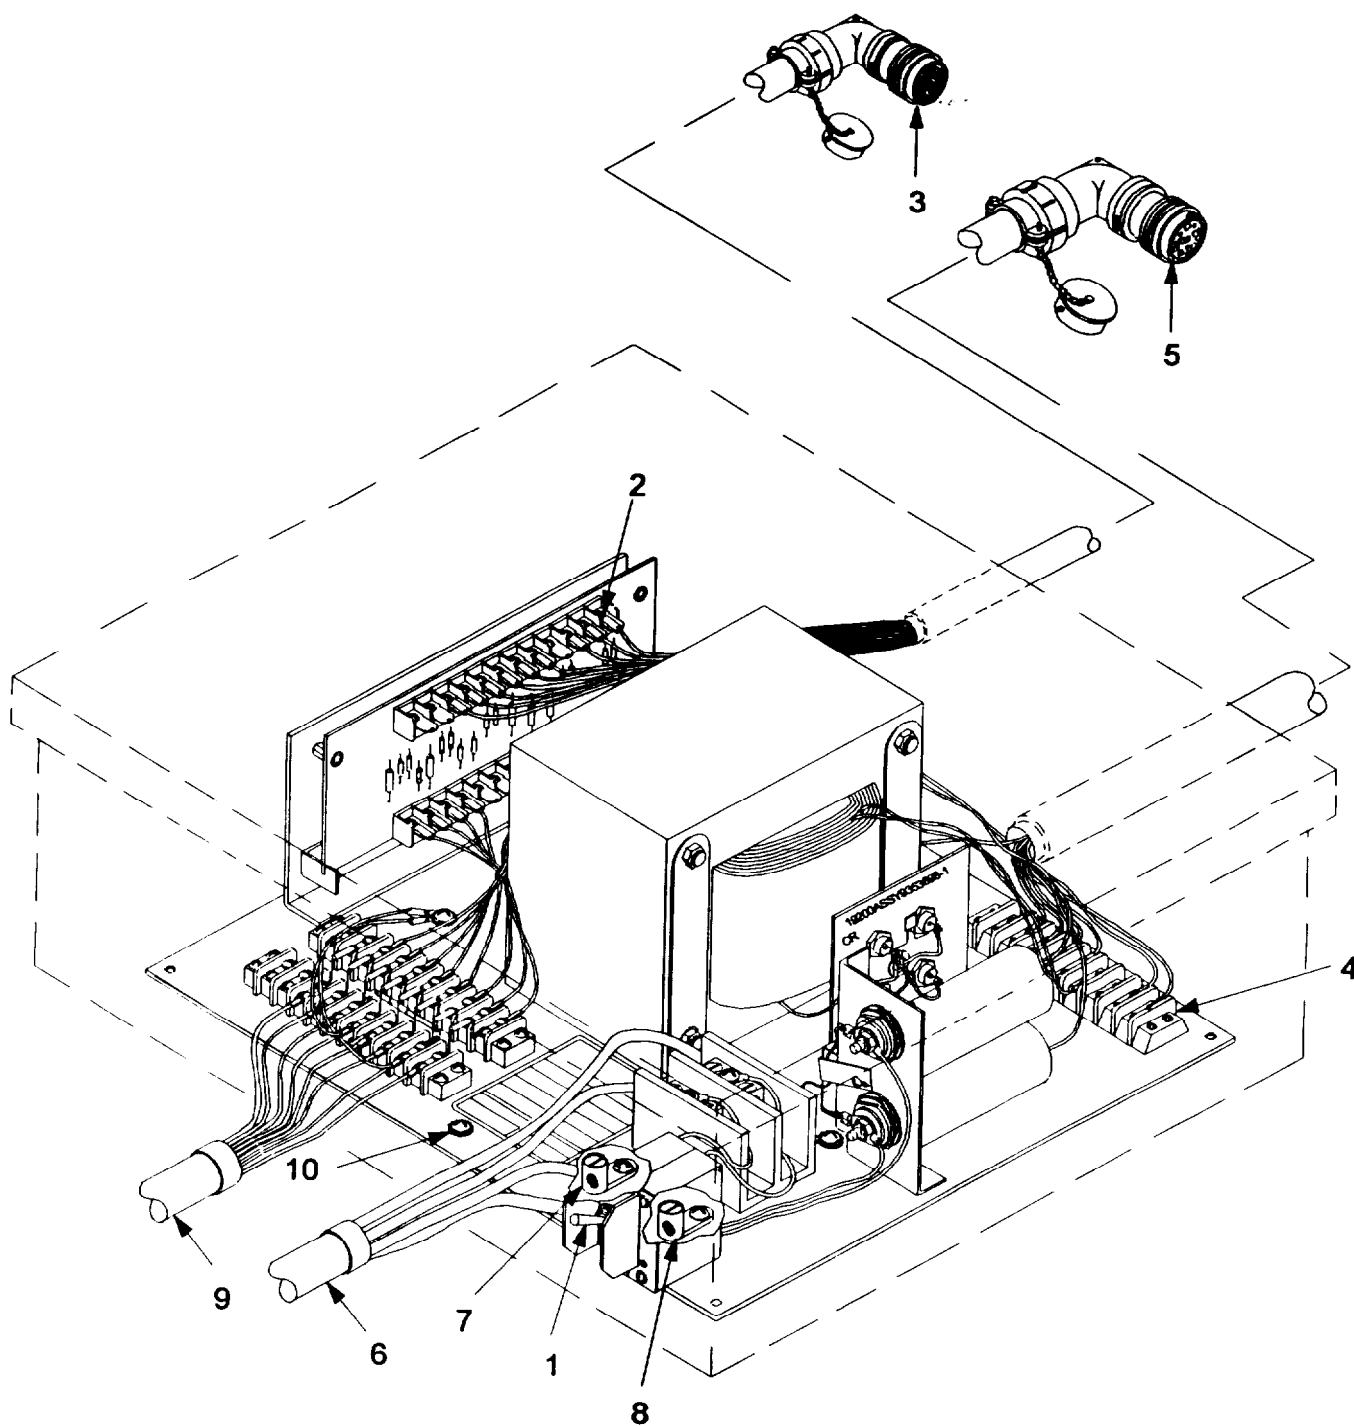

Figure 2-5. Preparation for Use of the ICB/High Power.
c. **Assembly and Preparation of ICB/High Power.** To assemble and prepare the ICB/High Power, refer to figure 2-5 and FO-1 and perform the following steps: